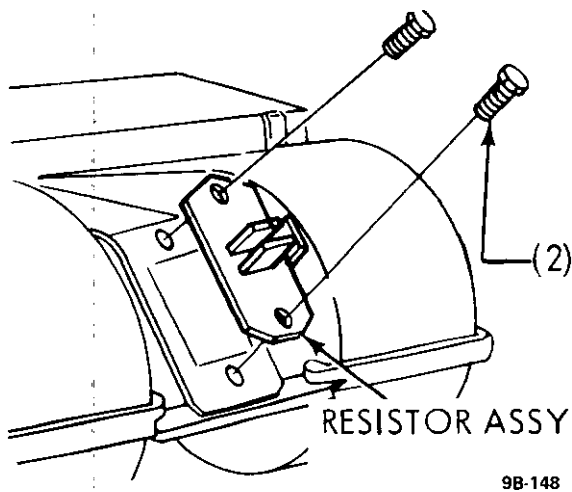

Figure 9B-198 Resistor Assembly Attaching Screws
3. Install the evaporator cover and attaching screws. See Figure 9B-195.